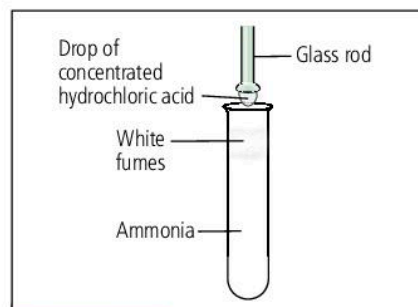

Figure 19.3.2 White fumes of ammonium chloride are formed when the hydrogen chloride, which evaporates from concentrated hydrochloric acid, reacts with ammonia.
- White fumes of ammonium chloride are seen when a drop of concentrated hydrochloric acid on the end of a glass rod is placed near the gas (Figure 19.3.2).